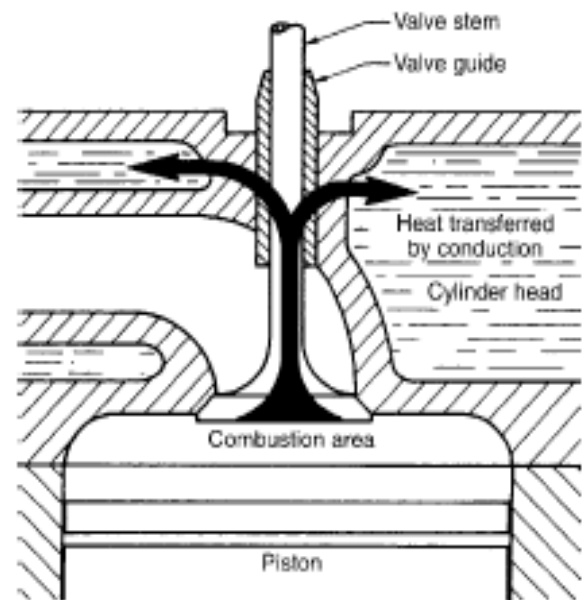

Figure 2: Heat is transferred by conduction from the valve stem to the valve guide. Both objects are solid.
- Conduction is defined as the transfer of heat between two solid objects, e.g. valve stem to valve guide, as shown in Fig. 2. Since both objects are solid, heat is transferred from the hot valve stem to the cool valve guide by conduction and also from the guide to the cylinder head.